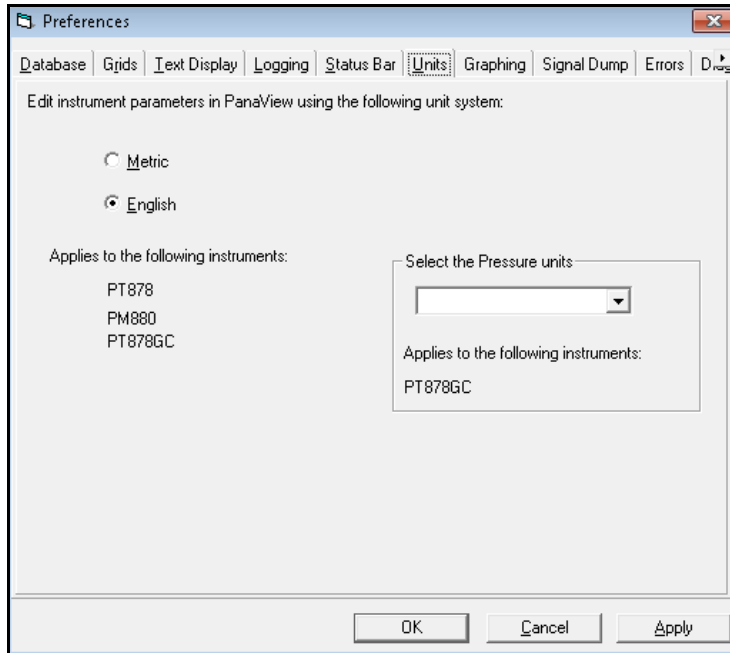

Figure 20: The Units Tab
- In the “Preferences” box, click the “Units” tab (see Figure 20 below) to display or edit the available units.